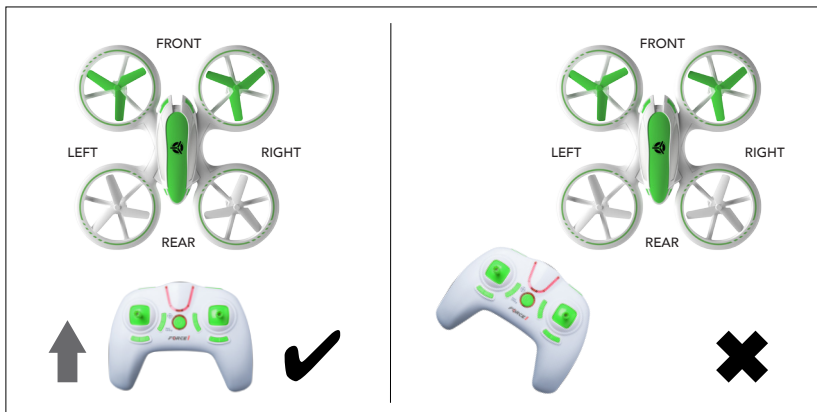

FIGURE 12
- Be sure your drone is facing away from you (Fig. 12)